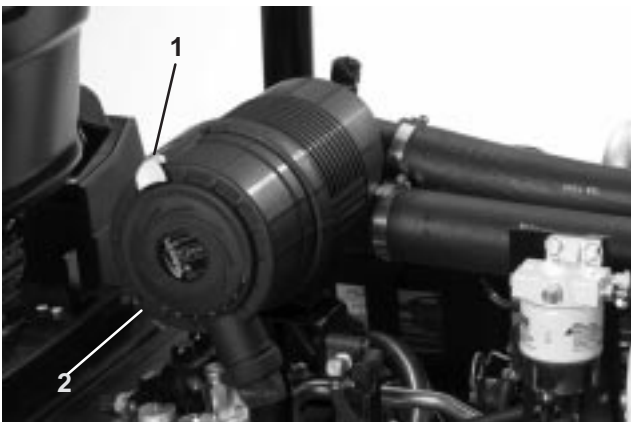

Figure 44
1. Release latch securing air cleaner cover to air cleaner body (Fig. 44). Separate cover from body. Clean inside of air cleaner cover.